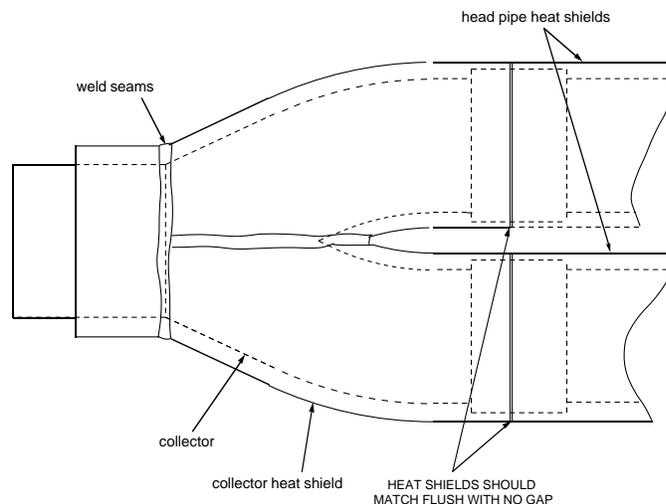

FIG. 2
9. Align the three heat shields so the ends meet flush with each other and the welds on the collector and the collector heat shield are in alignment with each other (Refer to Fig. 2). Then tighten all the heat shield clamps.